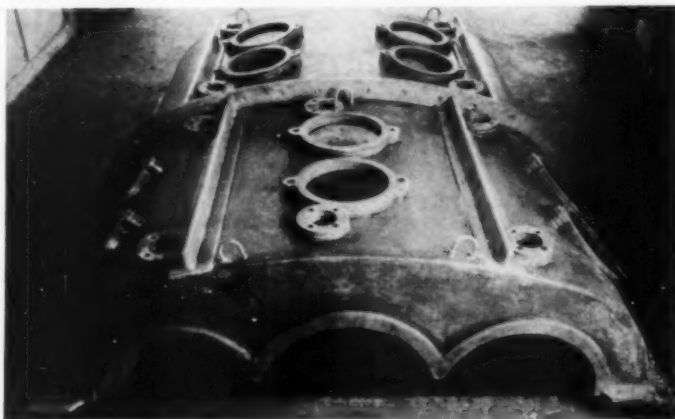

Fig. 3—Single skin glass fiber reinforced polyester resin gear case cover with T-stiffeners added
1. *Single Skin Construction—Reinforced Polyester Resin* (*Fig. 3*): The resin used was a general-purpose rigid, styrene cross-linked, polyester resin. The method of fabrication was a hand layup of the main portion of the cover to a thickness of 3/16-in. Separate press moldings were made for access-door bosses and temperature-indicator opening bosses. These were then secondarily bonded to the cover as were edge reinforcements. Threaded steel inserts were then installed in the bosses for cover attachments. A T-section stiffener was bonded to the inside surface of the cover, and two similar sections were added to the outside surface when load testing indicated their need. The cover when completed was coated on the outer surface with a fire-retardant compound of antimony oxide and Chlorowax.